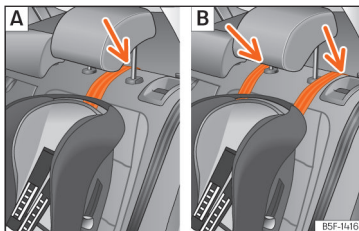
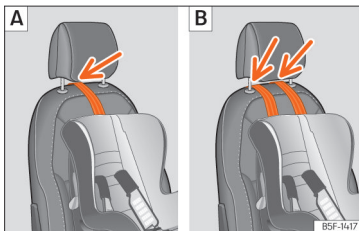

Fig. 47 Rear seats: adjustment and assembly according to the Top Tether belt.
Fig. 48 Passenger seat: adjustment and assembly according to the Top Tether belt.
- Position the belt under the headrest (according to the instructions of the seat itself, lift or remove the headrest if necessary) >>> Fig. 47 , >>> Fig. 48.